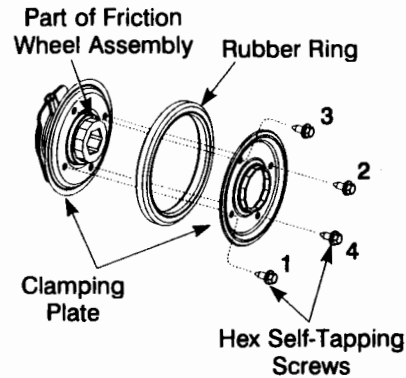

FIGURE 31
Check wear on friction wheel at least once a season. Replace rubber ring (friction wheel) before clamping plates damage aluminum drive plate. See Figure 31.
- Reassemble new friction wheel rubber to the friction wheel assembly, turn each screw approximately 2 turns in order shown in Figure 31 until screws are tight. **It is important for the rubber to be assembled symmetrically.**